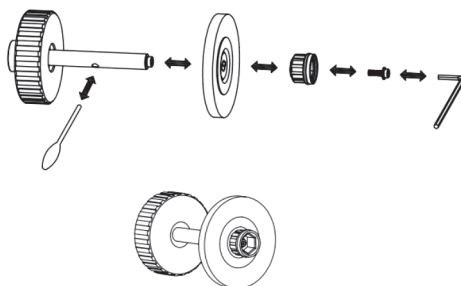

Fig. 6
C. Assemble and replacing the narrow metal and narrow plastic brush. Refer to Fig. 6.